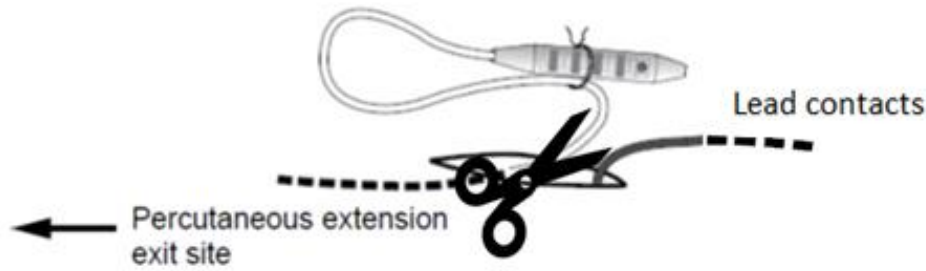

Figure 6. Image showing where to cut the percutaneous extension for removal.
4. Cut the percutaneous extension near the incision proximal to where it is tied to the connector (Figure 6).